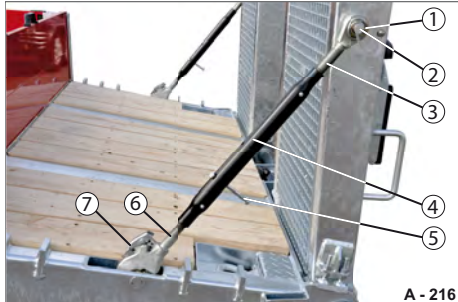

Fig. 54 Securing rod overview
- ▶ Set down the complete securing rod (Fig. 54/4) safely to avoid damage.